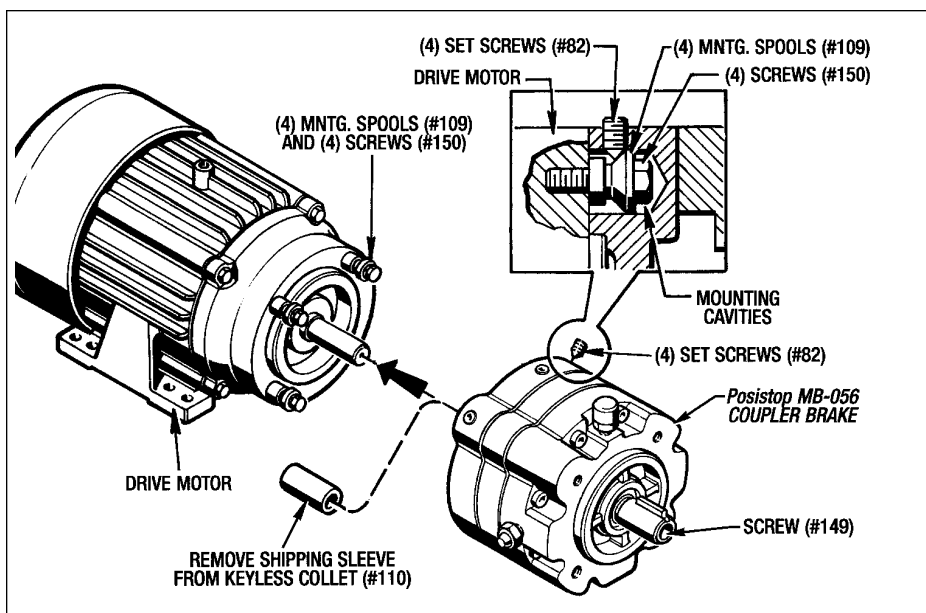

Figure 3.2- Mounting the MB-056 Coupler Brake
2. Install the (4) Mounting Spools (#109) and the (4) Screws (#150) to the motor face as shown in Figure 3.2. Use **Blue Loctite #271** on these screws. Only moderately tighten them up at this time. **Do not torque these (4) Screws (#150) at this time.**